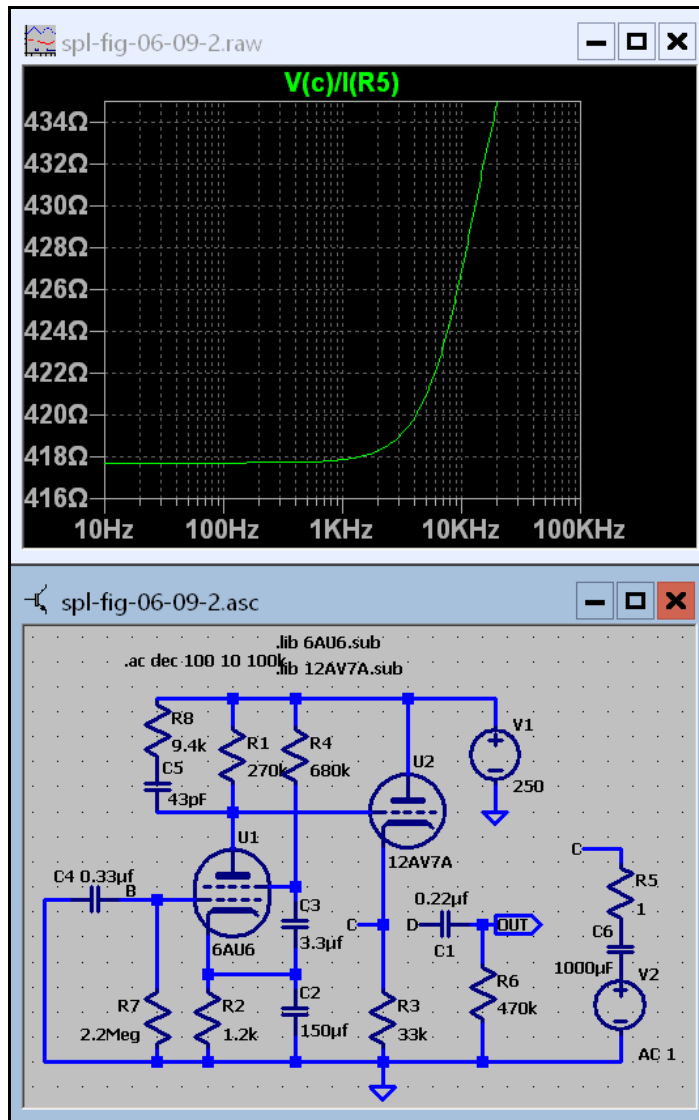

Figure 6.9.2 Output impedance of the Pentode-Triode circuit. The best.
1. If there is a 1 volt AC generator on the left press F7 and move it to the right side of the diagram as shown in figure 6.9.2. Skip step 2.